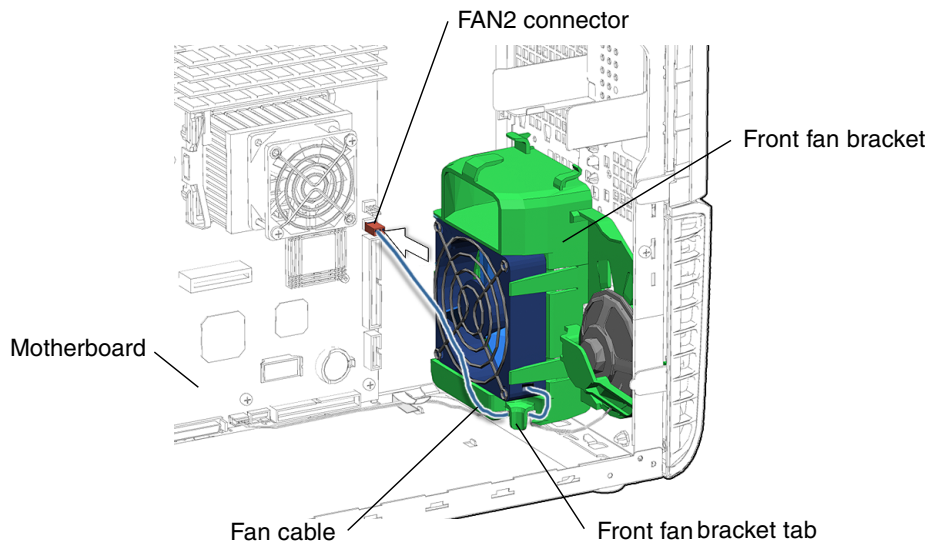

FIGURE 13-15 Routing and Connecting the Front Fan Cable
6. Guide the fan cable through the front fan bracket tab (FIGURE 13-15).